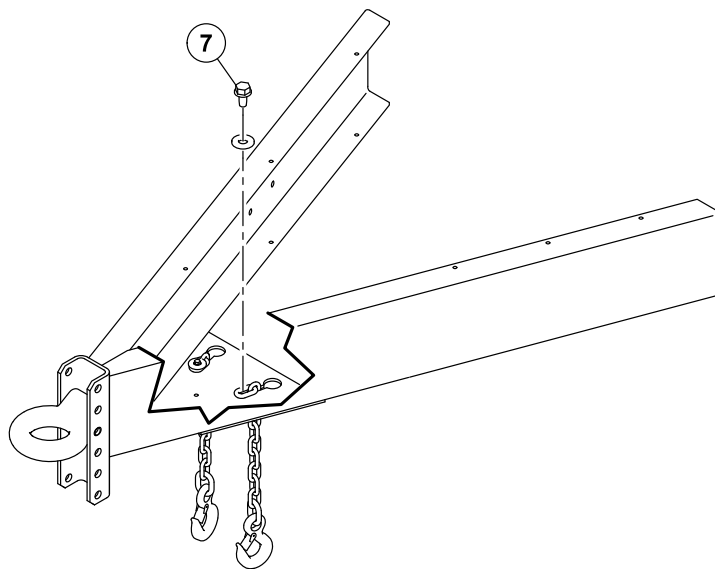

FIGURE 2: SAFETY CHAIN ATTACHMENT
7. Install Safety Chains by sliding the second link of one Chain into the slot in Drawbar Plate. Fasten Chain to Plate using Taptite and Washer. Repeat for the other Safety Chain (See Figure 2)